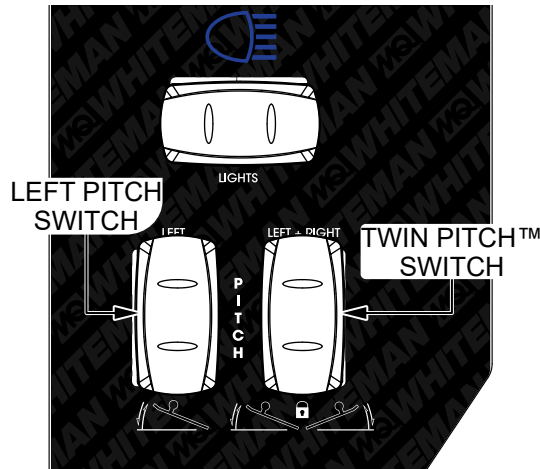

Figure 26. Blade Pitch Switches
1. Press **UP** or **DOWN** on the **Twin Pitch™ switch** (Figure 26) to change pitch on both rotors simultaneously (but non-synchronously).
2. Press **UP** or **DOWN** on the **Left Pitch switch** (Figure 26) to change pitch on the left rotor only. The right rotor pitch will remain constant.